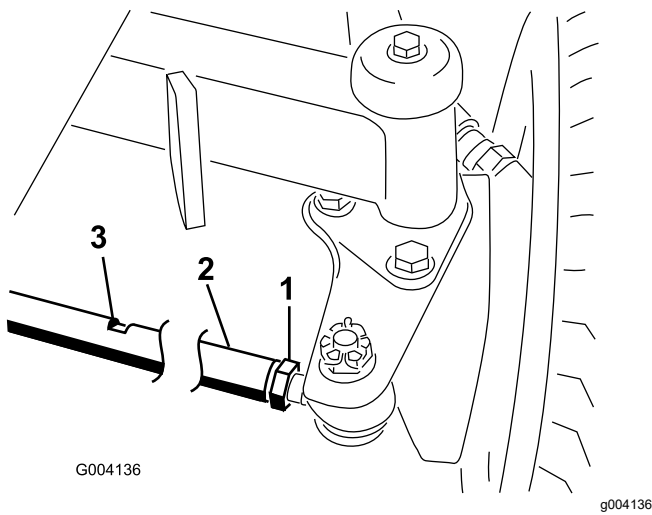

Figure 102
- Loosen the jam nut on each end of the tie rod (Figure 102).